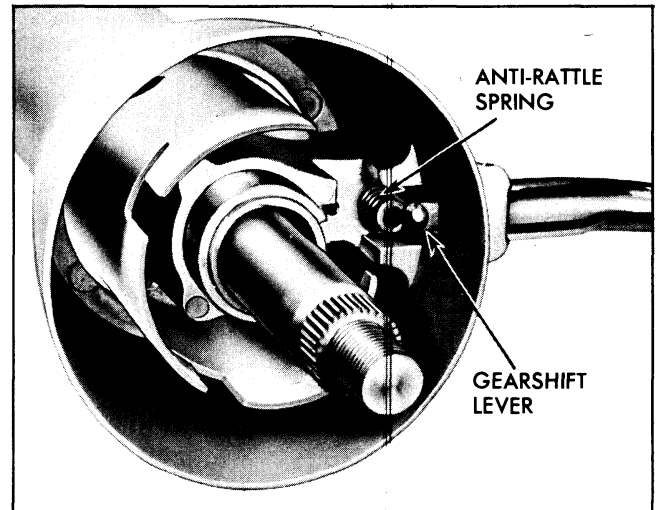

Fig. 9-21 Installing Anti-Rattle Spring
14. Using needle nose pliers, insert gearshift lever anti-rattle spring in depression located in housing and apply grease to spring to prevent squeak (Fig. 9-21).